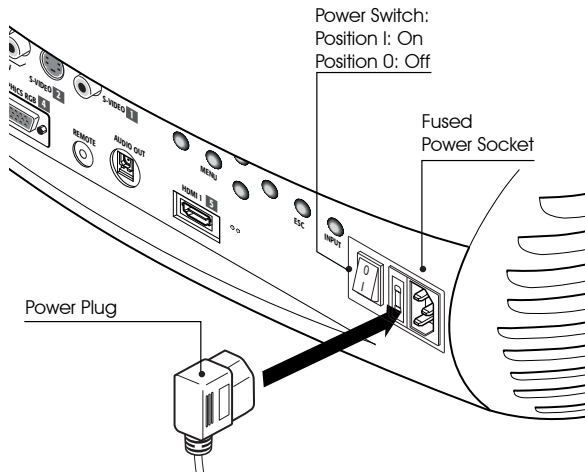

Fig. 12
**WARNING:** Connect the projector to a power supply with a nominal voltage within the following values: 100-240 V AC, 50/60 Hz. It must be earthed (Fig. 12).